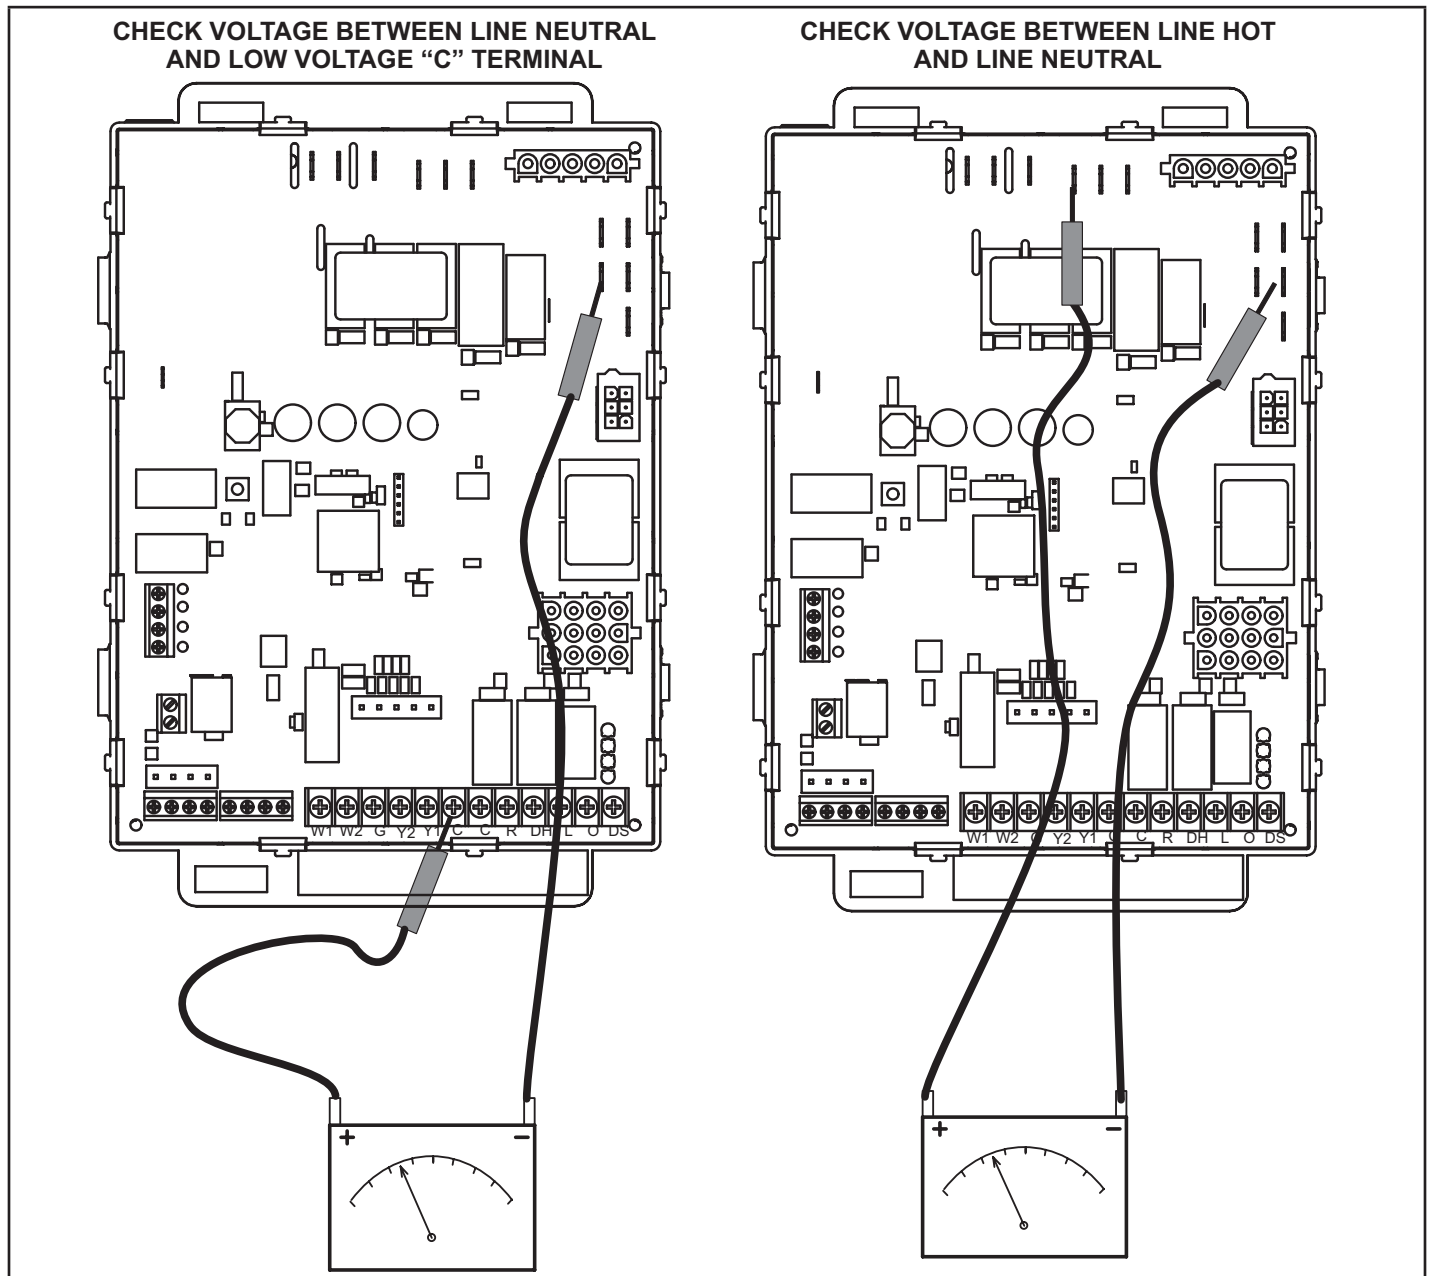

FIGURE 54
- 1 - Measure the AC voltage between Line Neutral (spade terminals) and "C" terminal (low voltage terminal block) on the integrated control. See FIGURE 54. A wide variation in the voltage between Line Neutral and "C" as a function of load indicates a poor or partial ground. Compare the readings to TABLE 30. If the readings exceed the maximum shown in table 1, make repairs before operating the furnace.
NOTE - FIGURE 54 is a typical ignition illustration. Use as reference.
- 2 - In addition, measure the AC voltage from Line Hot to Line Neutral (spade terminals) on the integrated control. See FIGURE 54. This voltage should be in the range of 97 to 132 Vac.